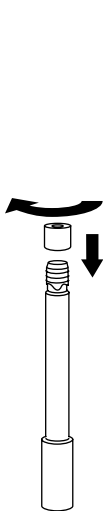

Fig. 10
10. Screw the membrane cap onto the outer body, being careful not to touch membrane. See **Figure 10**. Screw the membrane cap on half way and wrap any loose membrane material onto the threads and under the cap. Make sure that the cap is fully screwed on.